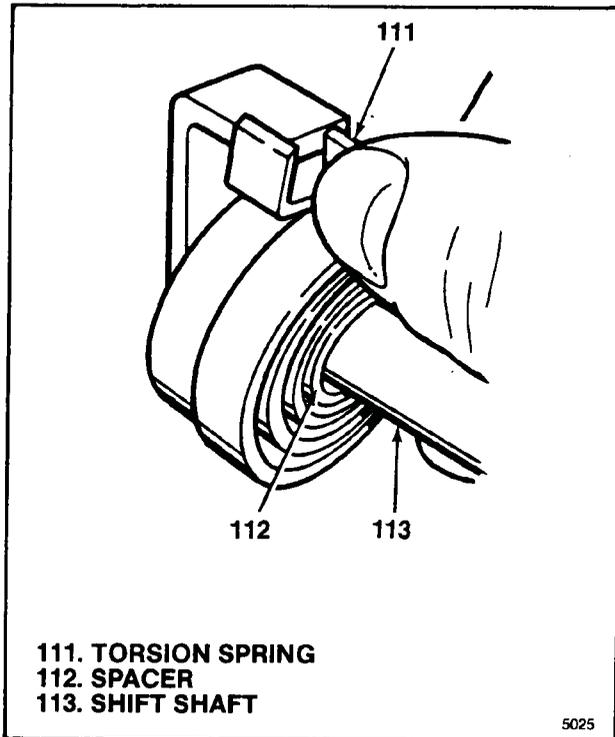

Figure 5-5. Installing Second Spring End
- c. Twist second spring (111) end to right of drive tang on shift shaft (113) (see figure 5-5).